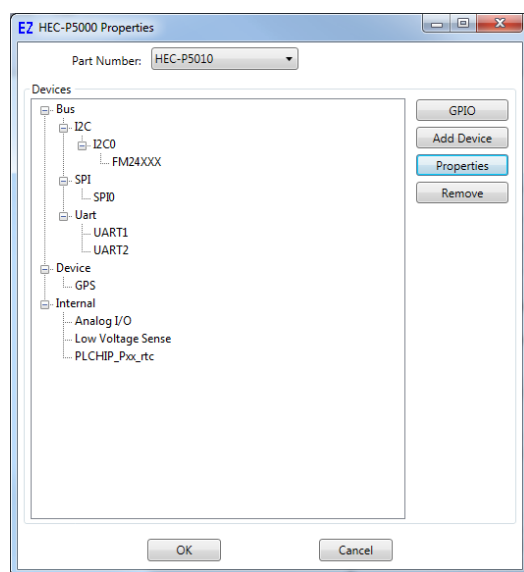

Figure 2-35 - HEC-P5XXX Properties
2. Click the **PROPERTIES** button to the right side of the window. The **HEC-P5000 Properties** Window will open. Make sure the proper model is selected in the drop-down menu. If the EEPROM feature was already installed, it would be displayed in the Devices Pane under the *Internal* heading (as **PLCHIP_Pxx_eeprom**). Refer to Figure 2-35.